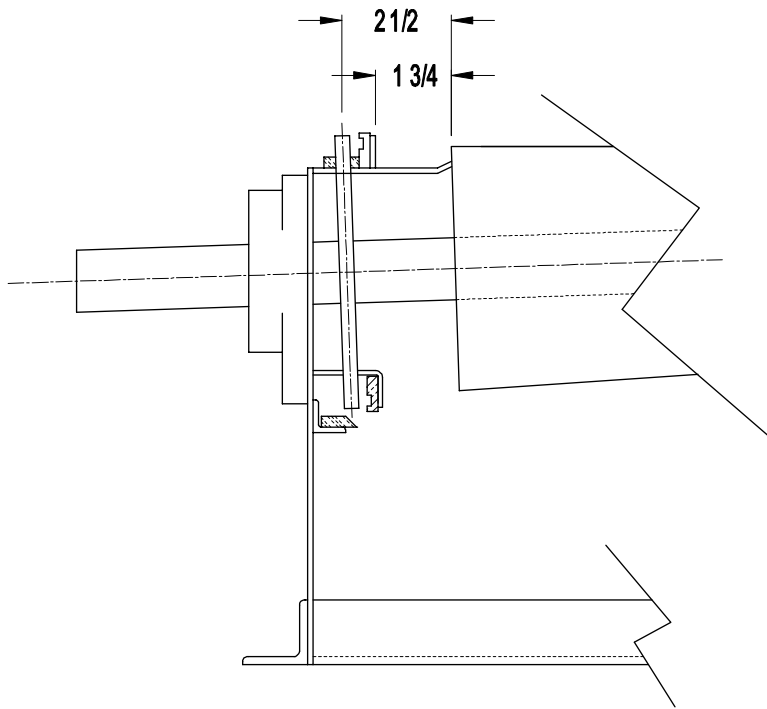

Figure 13
- b. Refer to Figure 13 to check the position of the roll in relation to the sprocket and chain guide.